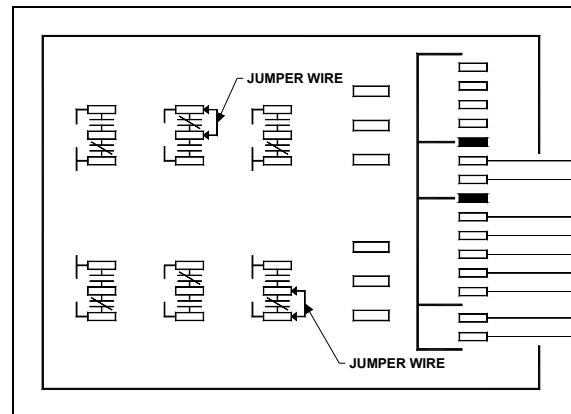

FIGURE 15: HVAC LOGIC PANEL
3. Open the rear electric compartment. Locate the **cooling contact 3** on the HVAC logic panel. Install a jumper wire between the central terminal of this stage and its normally-closer contact terminal as illustrated in Fig. 15. Locate the **cooling contact 2**. Install a jumper wire between the central terminal of this stage and its normally-closed contact terminal as illustrated in Fig. 15.